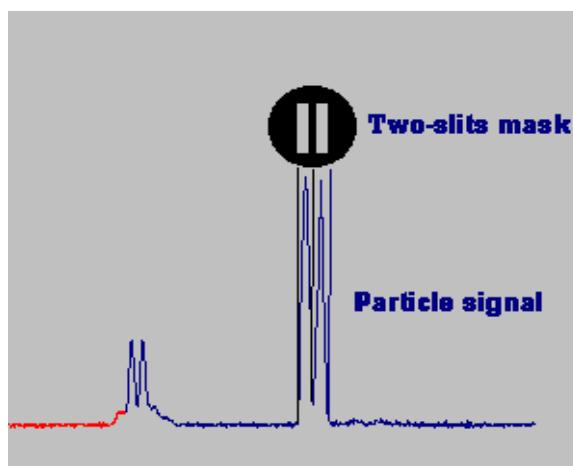

FIGURE 2: TWO-SLITS MASK
The optical sensor consists of a special multi-elements IR relay lens corrected for both geometrical and wavelength aberrations. A protective window is installed at the front of the lens (the closest to the plume). The lens is coupled to an optical fiber bundle consisting of one 400 $\mu$ m fiber surrounded by 2 other fibers used for alignment purposes. An optical two-slits photomask (schematically shown in Figure 2: Two-Slits mask) is inserted between the lens and the central fiber, in contact with the latter. Because of this photomask, a particle passing in front of the sensor will generate a twin-peaks signal as illustrated in Figure 2: Two-Slits mask.
**Velocity** is obtained by dividing the distance between the image of the two slits in the measurement volume (real distance between the slits on the photomask multiplied by the magnification factor of the lens) by the “time of flight” between the two peaks of the particle signal (illustrated in Figure 2: Two-Slits mask), as estimated by the computer through waveform analysis. Velocity is the most precise of the CSM eVOLUTION’s measurements limited only by the frequency drift of the scope card’s crystal oscillator. Re-calibration is therefore not necessary.